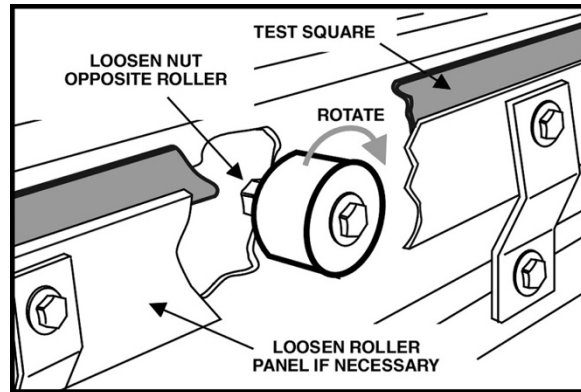

Figure 15
2. Turn each roller to ensure it does not jam or have excessive clearance from the straightedge. If this occurs, loosen the roller nut, shown in Figure 15.
3. The adjustable rollers have an eccentric hub. Turning the roller when the roller nut is loose changes the position of the roller. Turn the roller until it touches the straightedge, making sure the straightedge does not bend. NOTE: The roller panel may have to be loosened in order to turn the roller. See Figure 15.